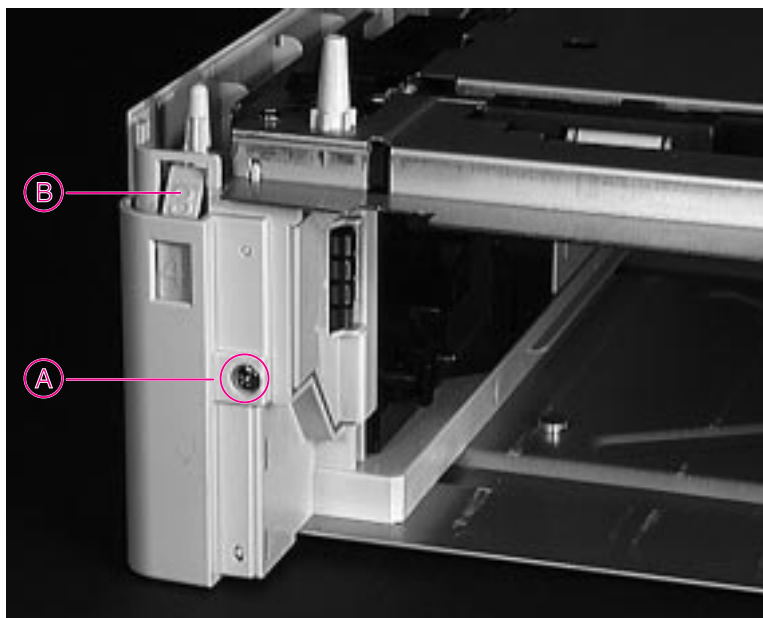

Figure 6-65 Removing the Tray Indicator Assembly
- 4 Remove the Tray Indicator Assembly (Figure 6-65, Item B).